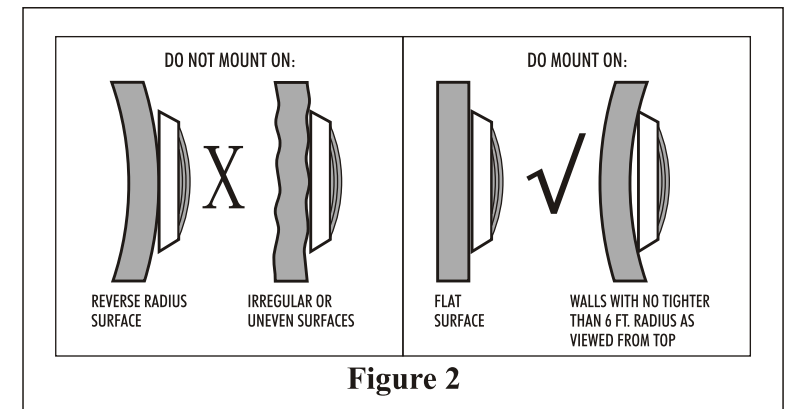

Figure 2
1. Locate position on a vertical wall where light is to be installed. The top of the light lens must be 45.5CM below normal water level, as required by NEC Article 680. The center of the mounting hub will line with the top of light lens. See Figure 2.
3. Wrap a length of the cord up to a maximum of 240CM long on the back of the light assembly. Wind a minimum of three (3) wraps of cord so that the last wrap stops at the top of the light. This extra cord allows you to bring the light out of the pool for revamping and serving.